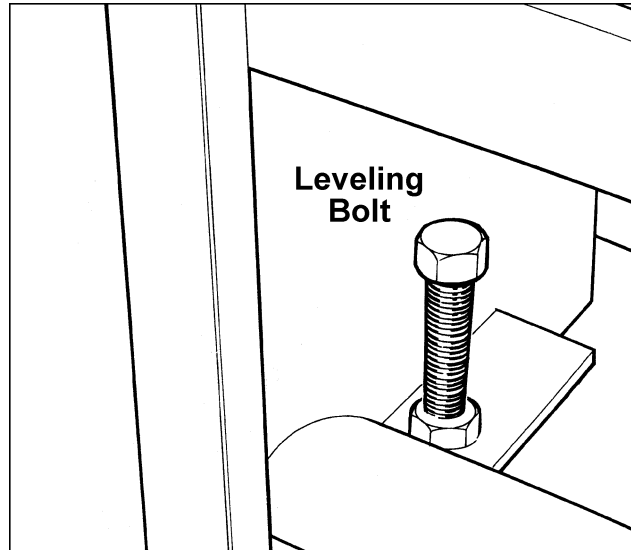

FIGURE 5
- When the machine has been placed in the intended location, it must be leveled in both directions to ensure smooth motion of the sliding table. Two leveling bolts must be inserted at the bottom of the frame before the machine is placed on the floor – one bolt under the pivot of the telescopic arm, and the other bolt under the electrical control panel. See Figure 5. These bolts must be positioned with bolt head upside down.